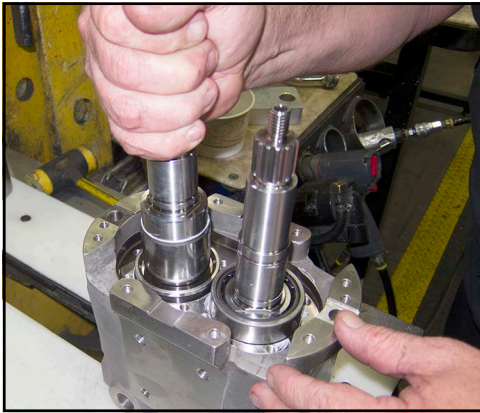

Figure 199 - Place drive shaft in bore
5. Place the drive shaft in the left-hand bore as shown in Figure 199.